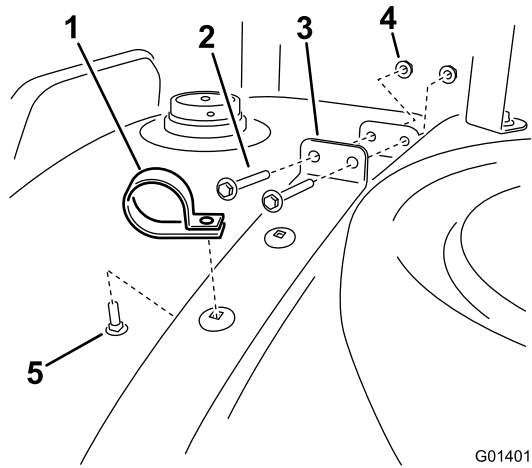

Figure 22
2. Lift the strap away from the tank enough to install a new bolt at the hole in the strap a quarter of the way down the left side of the tank as shown in Figure 22.
3. Move the strap back into position on the tank. Use the bolts removed previously to tighten the strap to the tank (Figure 22). Make sure the strap is secure to the tank. **Do not overtighten.**